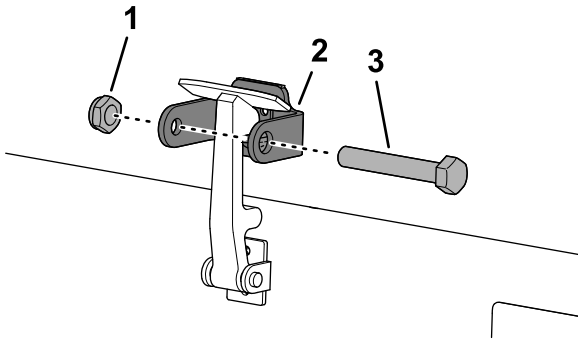

**Figure 36**
7. Hook the latch onto the hood-latch bracket (Figure 36).